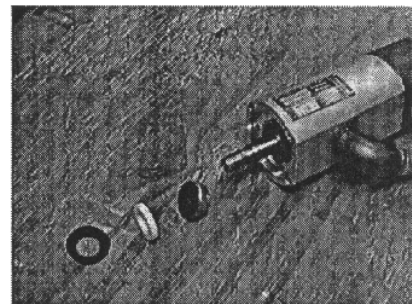

Figure 6
- (e) Remove the oil seal and spacer from the pump shaft and replace. **(Fig 6)**